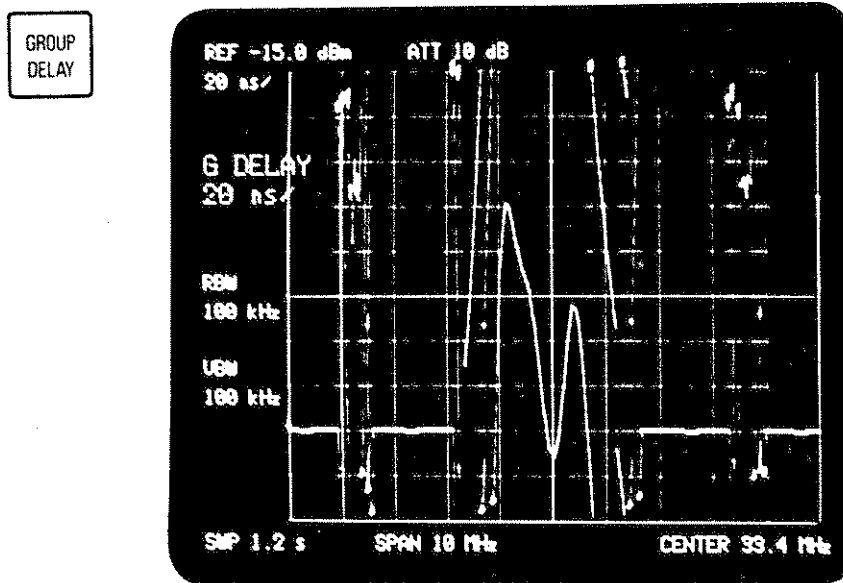

Fig. 7-9 Group delay measurement
- ⑪ If phase overflow occurs in the pass band due to the increased phase resolution, press the (G.D. OFFSET) key to activate group delay offset. Then adjust the phase slope in the pass bandwidth with the DATA knob.
- ⑫ The group delay of the device under test can be observed by pressing the GROUP DELAY key (Figure 7-9).
- ⑬ For more precise group delay measurement, write the group delay of the through response into trace memory A at the same resolution (See 7-1 (5), (6)), bring the display line close to the through response trace, then press the SHIFT and MHZ keys to eliminate the group delay of the measuring system itself. Use of the averaging mode (See 7-1 (8)) will provide still more precise measurement.
- ⑭ If a greater signal-to-noise ratio is desired, press the VIDEO BW key to narrow the video bandwidth. At this time press the SWEEP TIME key and select a relatively long sweep time.